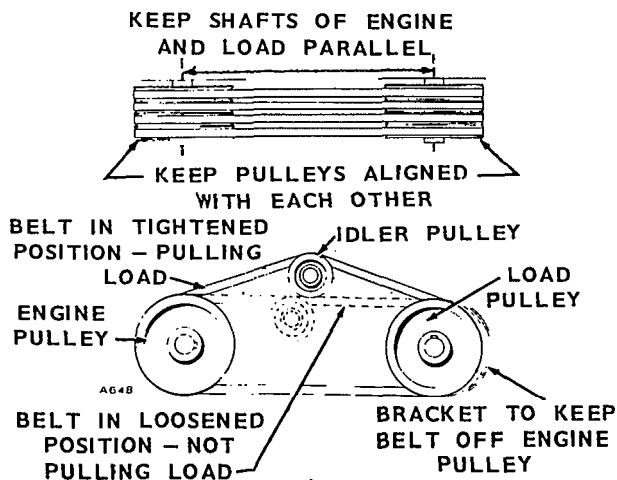

FIGURE 4. DRIVE BELT INSTALLATION
**Belt Drive:** V-belts are preferable to flat belts. Consult a reliable belting supplier for recommendations regarding size of pulleys, number of belts, etc. required. A typical belt drive installation is shown in Figure 4.